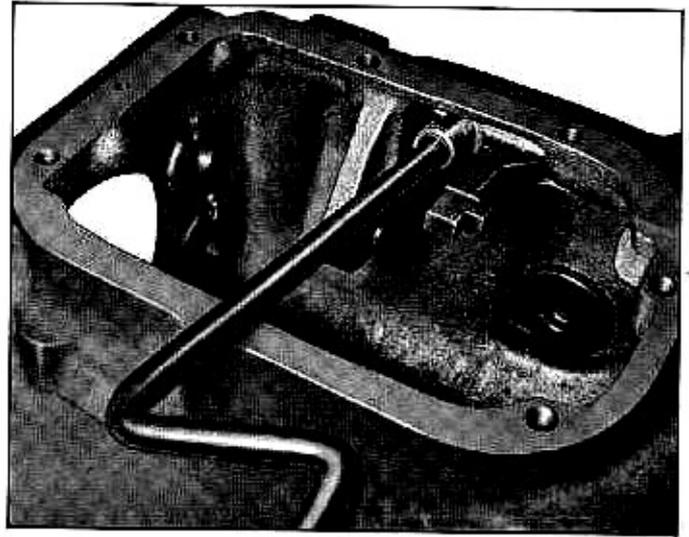

Fig. 4A—Removing Shift Finger from Selector Shaft
9. If desired remove two screws and lock washers attaching shift finger to selector shaft and remove shaft out front of case. (Fig. 4A)